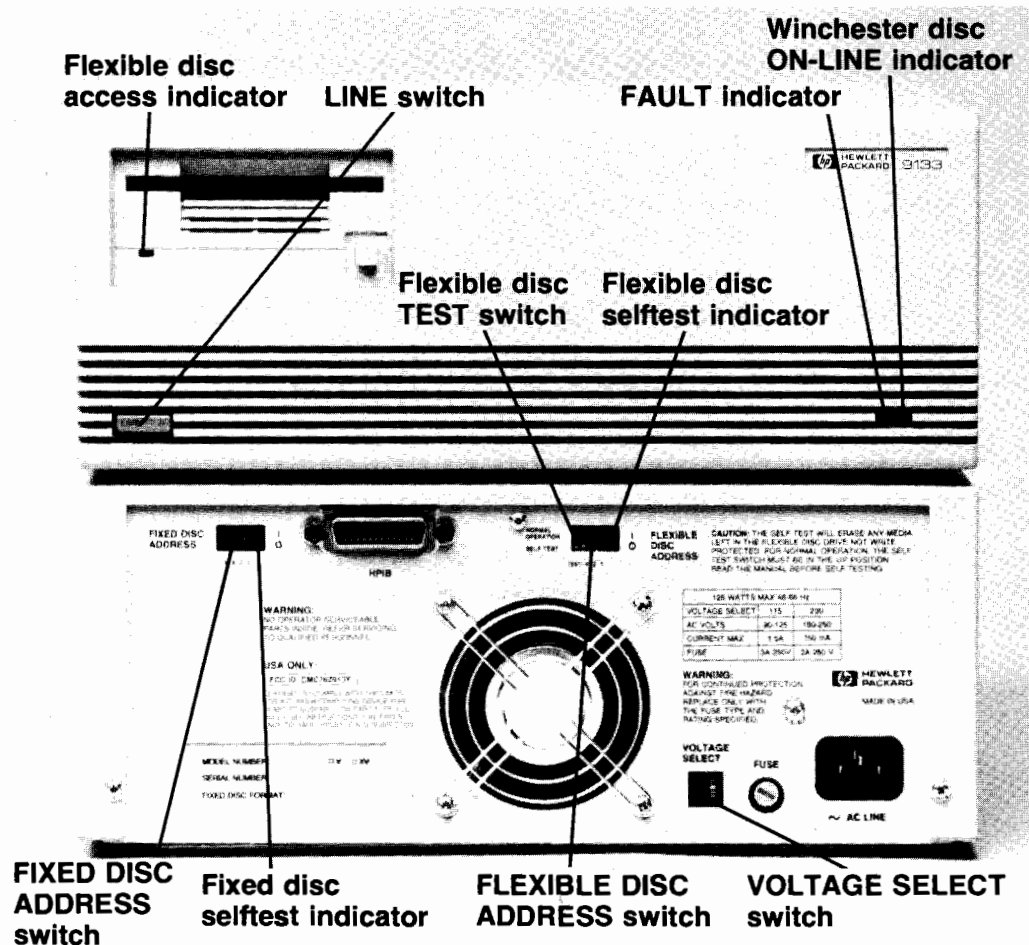

Figure 3-6. 9133V/XV Controls and Indicators
The location of all controls and indicators on the disc memory is shown in Figure 3-6. Front panel controls and indicators are a primary power LINE switch, a FAULT indicator, an ON LINE indicator for the Winchester disc drive, and a disc access indicator for the 3 1/2-inch flexible disc drive. Rear panel controls and indicators include the device address switches for the flexible disc and the fixed disc and the VOLTAGE SELECT switch which were discussed in Chapter 2, the TEST switch adjacent to the FLEXIBLE DISC ADDRESS switches, and the selftest indicators for the flexible disc and the Winchester disc.
3. Locate the TEST switch on the rear panel (Figure 3-6) and move the switch to the SELFTEST (down) position for five seconds and then back to the NORMAL OPERATION (up) position. It is essential that the switch be returned to the NORMAL OPERATION position before attempting to use the disc memory in your system.